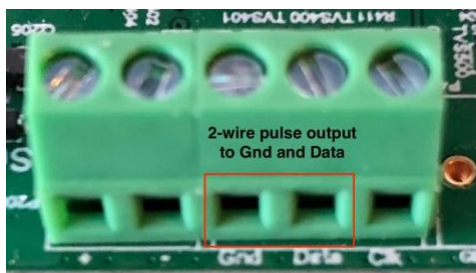

Figure 1
3. For a 2-wire, reed switch, non-polarity pulse output meter, attach one wire to Ground (Gnd), and the other wire to Data. See Figure 1. A 2.5mm standard screwdriver is required.